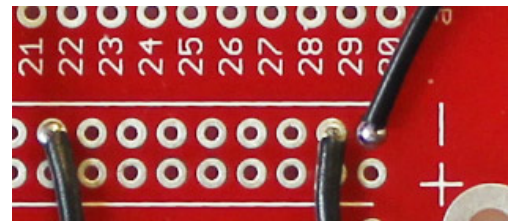

Figure 20
20. Prepare a 4 ½ inch long stranded black wire (22 AWG) and strip one end. Solder the wire to hole 9th from right end of bottom negative power bus (see Figure 20).